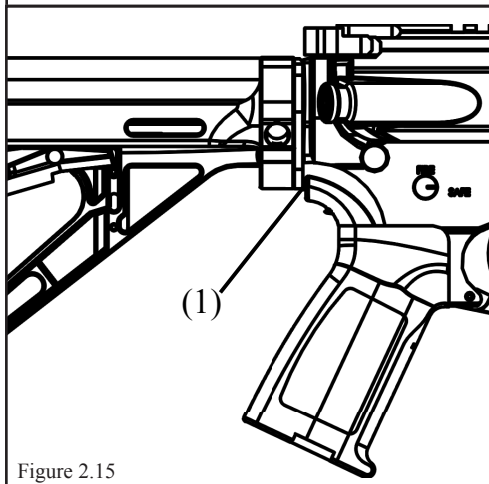

Figure 2.15
4. Buffer tube is out of alignment (applicable only to weapons using the PWS EBT)	Relive tension and readjust buffer tube by unscrewing bottom screw (Fig. 2.15, 2)
Space between buffer tube (Fig. 2.15, 1) and tension plate should be parallel	Refer to page 48 for installation instructions